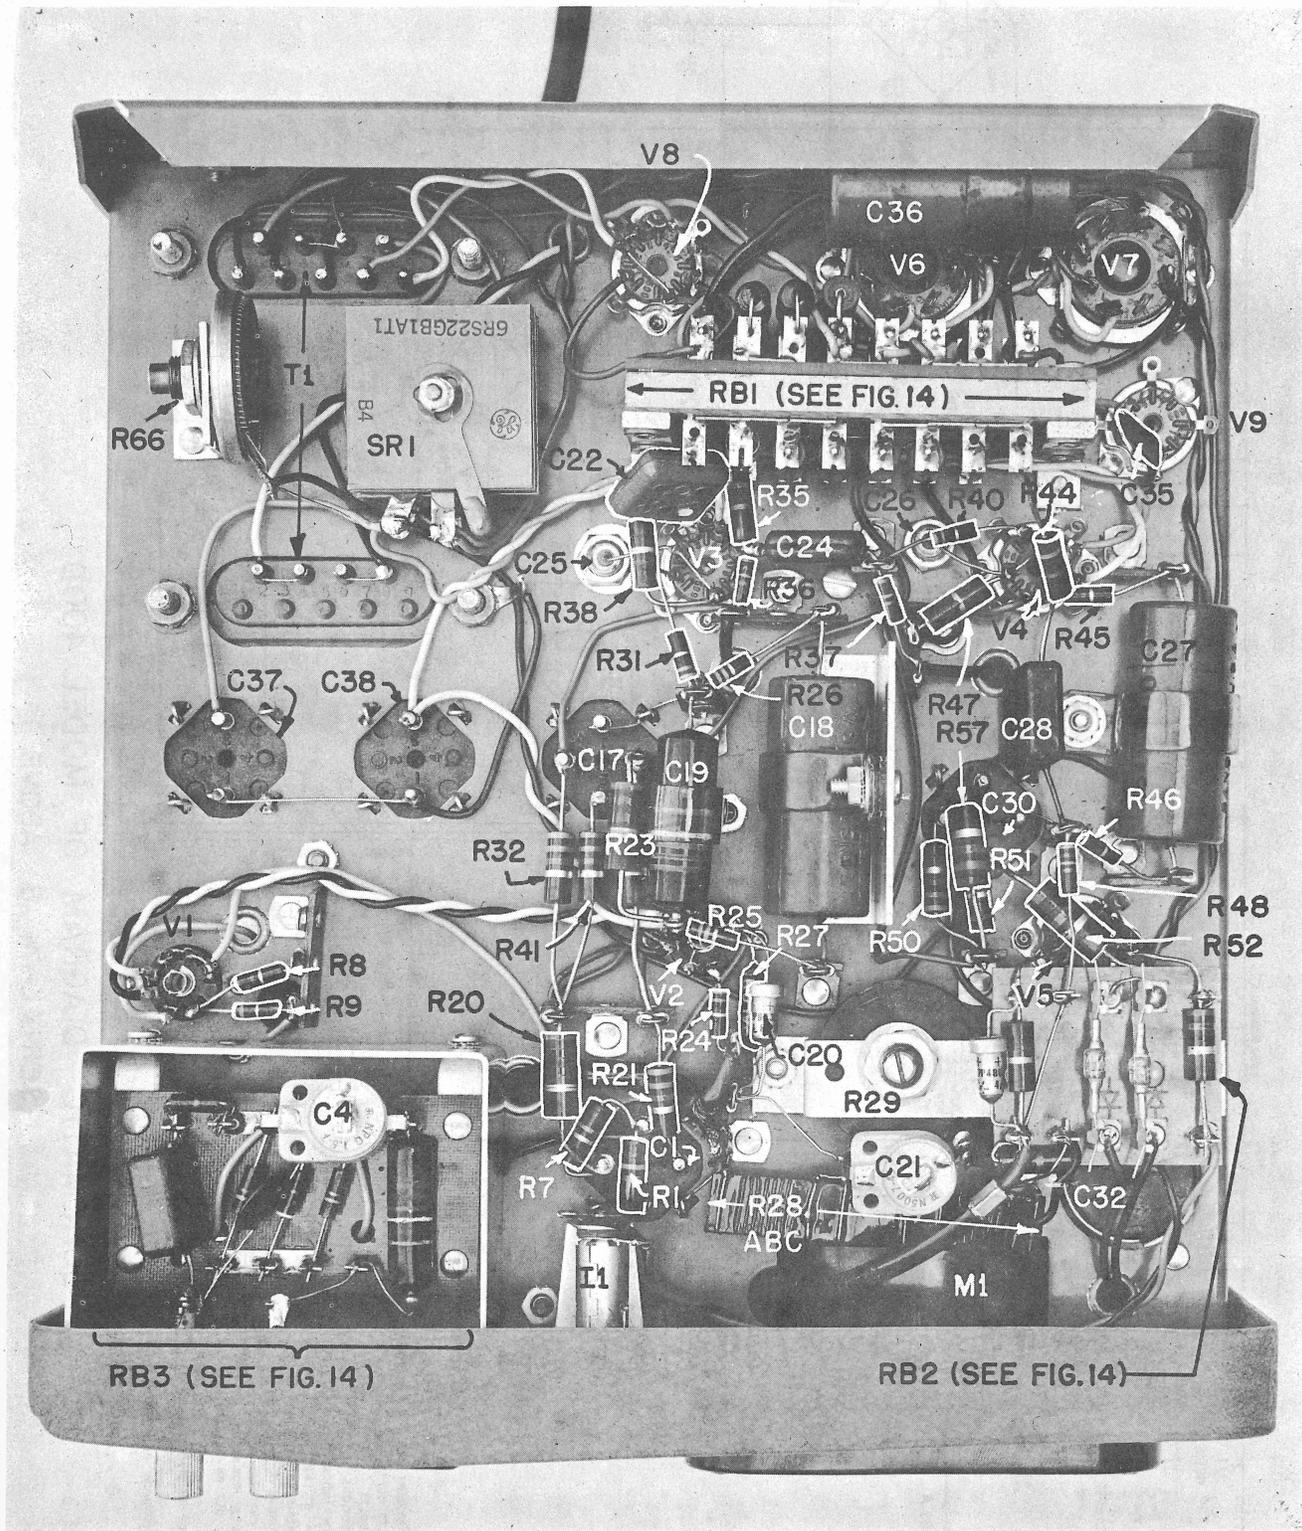

Fig. 11. Model 400D View of Left Side Instrument Case Removed
2. Connect a DC voltmeter (such as a Hewlett-Packard Model 410B) to pin 3 of tube V4. Adjust variable resistor R66 to obtain a meter indication of 12.6 volts. The location of resistor R66 and the socket of tube V4 are shown in Fig. 11.
The voltage from the regulator output to ground should be within 245 to 255 volts. The measurement may be made from pin 3 of tube V7 (Fig. 11) with a DC voltmeter, such as a Model 410B.
3. Set the Model 400D range switch to the .3 volt position, and apply .3 volt at 400 cycles to the input of the Model 400D. Adjust R29 (Fig. 11) until the Model 400D indicates exactly .3 volt.
4. Set the Model 400D range switch to 1 volt, and apply 1 volt at 400 cycles to the input of the Model 400D. Adjust capacitor C4 (Fig. 11) until the Model 400D meter indicates exactly 1 volt. This completes calibration of the instrument.
5. Adjust capacitor C21 (Fig. 11) to bring the Model 400D meter indication to the same indication as at 10 kc. At this setting of capacitor C21, spot check the frequency response at other frequencies between 10 kc and 4 mc (such as 100 kc, 1 mc, and 2 mc). It may be necessary to readjust capacitor C21 at 4 mc for a meter indication above or below the 10 kc reference to compensate for deviations from the reference at other frequencies. Adjustment of C21 will affect the frequency response on all ranges.